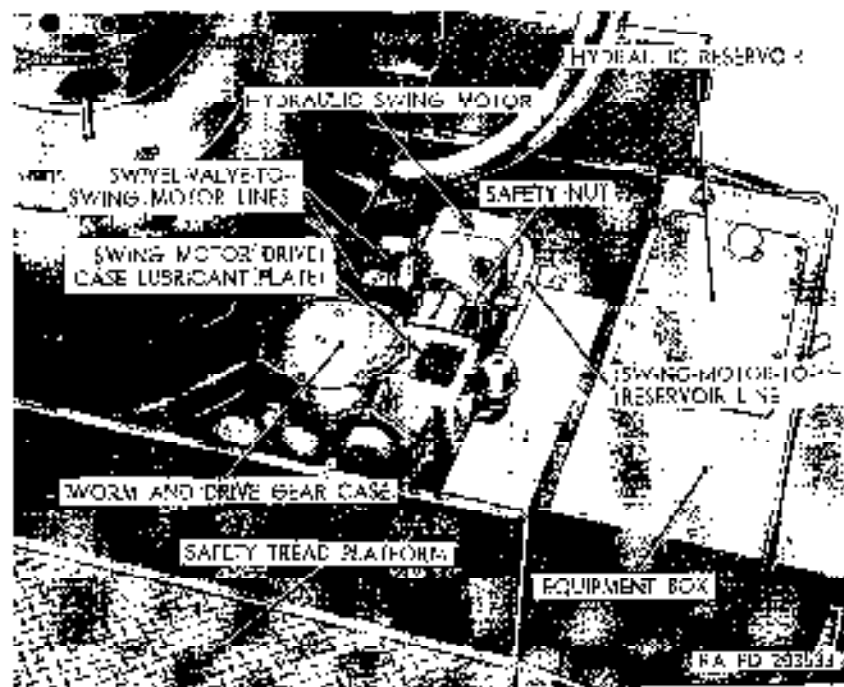

Figure 85. Ground hydraulic swing motor (M246).
- (a) The pivot post (fig. 81) and boom assembly is rotated 360° by a vane type hydraulic motor (fig. 85) in conjunction with a worm and gear reducer geared to the base of the